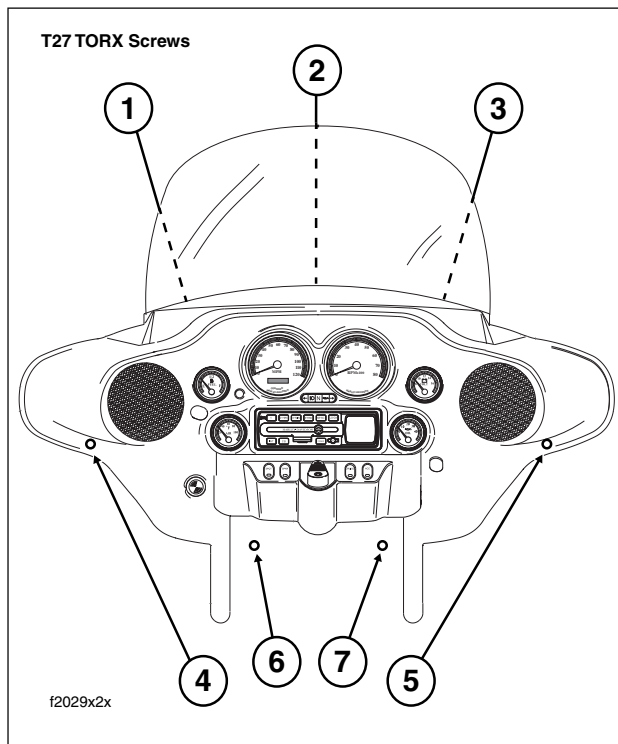

Figure 2-149. Outer Fairing TORX Screw Locations
- a. Standing at the front of the vehicle, use a T27 TORX drive head to remove the three outer fairing screws (with flat washers) just below the windshield. See Figure 2-149.